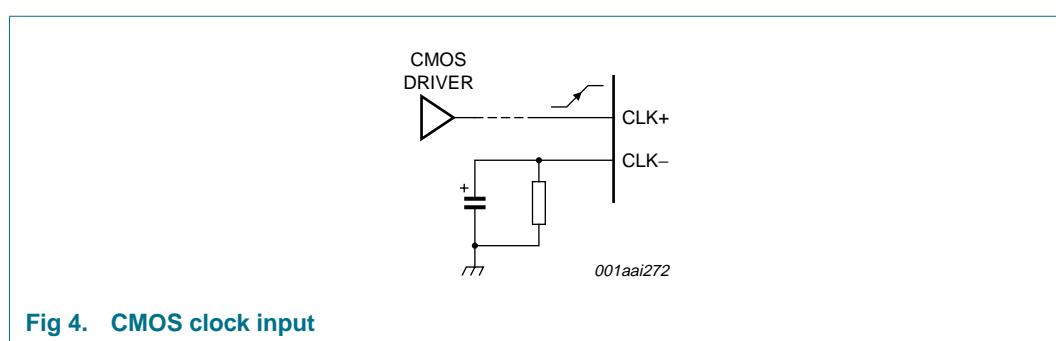

Fig 4. CMOS clock input
- 1.8 V CMOS mode: CLK+ input is at 1.8 V CMOS level and sampling is done on the rising edge of the clock input signal. In this case pin CLK- must be grounded; see Figure 4.